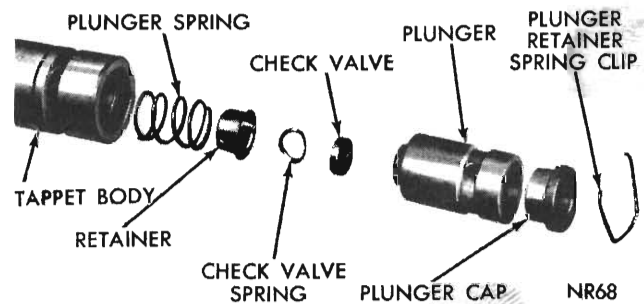

Fig. 12 - Hydraulic tappet assembly (disassembled view)
### Disassembly (refer Fig. 12)
- (1) Clean all tappet parts in a solvent that will remove all varnish and carbon.
- (2) Replace tappets that are unfit for further service with new assemblies.
- (3) If plunger shows signs of scoring or wear and valve is pitted, or if valve seat on end of plunger indicates any condition that would prevent valve from seating, install a new tappet assembly.
- (4) Assemble tappets (*Fig. 12*).